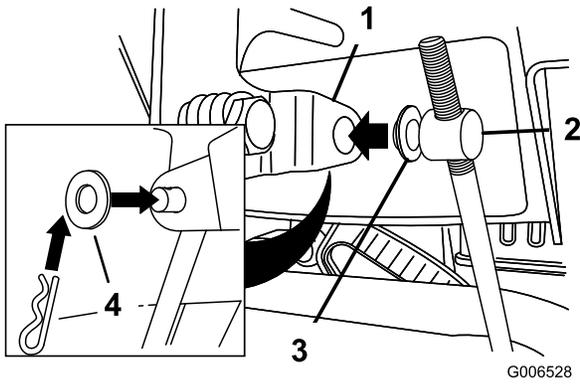

Figure 11
3. Remove the hairpin cotter and the outer washer from the trunion on the upper end of the speed control rod (Figure 11).
Note: To make installation easier, leave the flat washer on the trunnion (Figure 11).
6. Lift up on the speed control rod and insert the trunnion into the hole in the speed selector lever (Figure 11).
- B. Disconnect the trunnion from the speed selector lever (Figure 11).